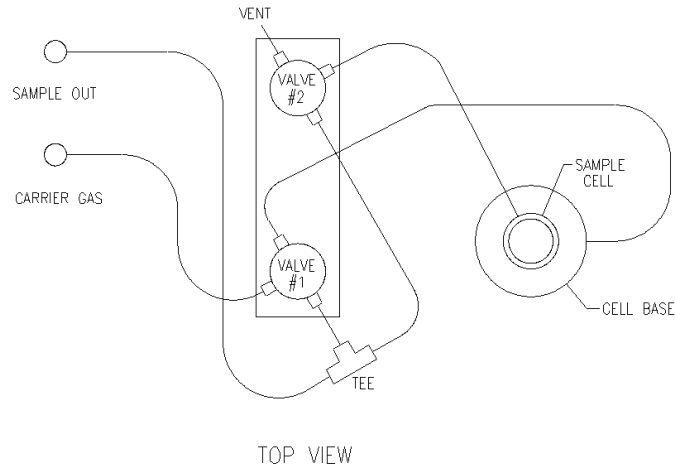

Figure 7.
14. Remove the nuts and ferrules from the old tubing and reattach on the new. The Teflon ferrule will need to be stretched to fit over the new tubing. The use of a pen, pencil, or phillips screwdriver will help to accomplish this. Figure 7 shows the tubing diagram for the system.